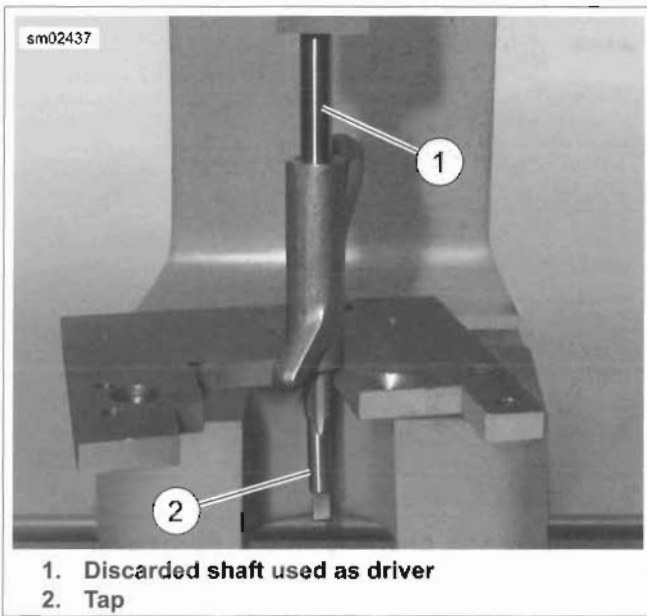

Figure 3-35. Removing Bushing
1. See Figure 3-35. Remove bushing from rocker arm:
- a. Turn a 9/16-18 tap (2) into bushing until tight.
- c. Slide a discarded rocker arm shaft (1) through open end of rocker arm until contact is made with tap.